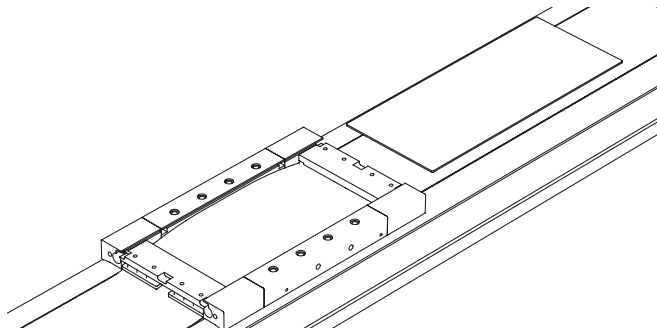

Fig. 7.11 Removing/mounting the carriage cover
- ▶ Remove the carriage cover by pushing it out of the carriage profile (see Fig. 7.11).
- ▶ Mount the carriage cover by inserting it into the groove of the carriage profile and the cover strip deflection (see Fig. 7.11).